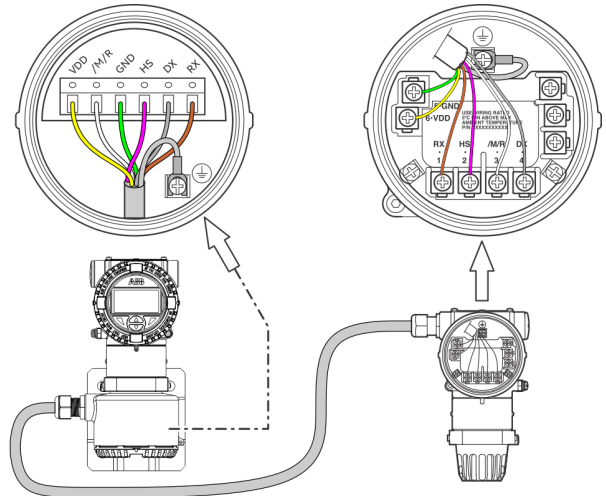

Figure 30: Electrical connection
6. Connect the wires to the corresponding terminals (see **Figure 30**).